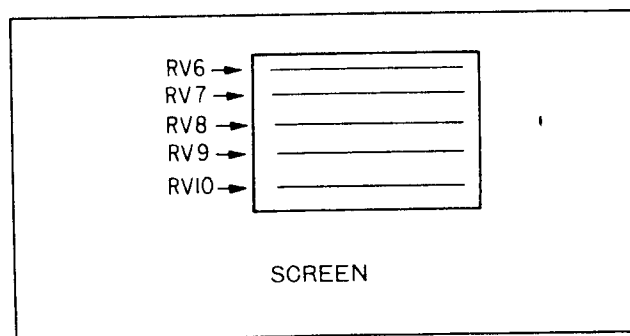

Fig. 2-3-4 V. CONV.
- 7) Rotate RV6 through RV10 (V. CONV) to eliminate misconvergence on horizontal lines in the center of the screen. (see Fig. 2-3-4)